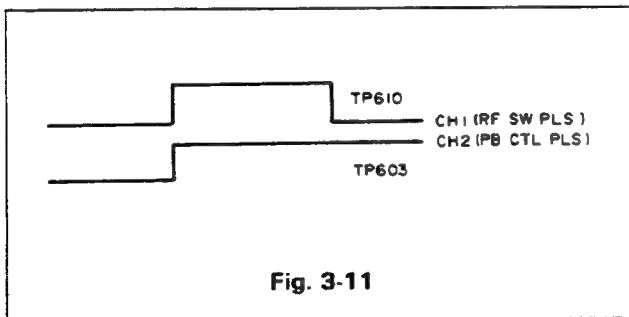

Fig. 3-11
- (1) Connect channel 1 of the oscilloscope to TP610 of the S/S/V circuit board. Also, connect channel 2 of the oscilloscope to TP603 of the S/S/V circuit board.
- (2) Play back the MH-2 alignment tape.
- (3) Adjust VR603 so that the leading edge of CTL PLS is synchronized with the leading edge of the RF switching pulse as shown in Fig. 3-11.